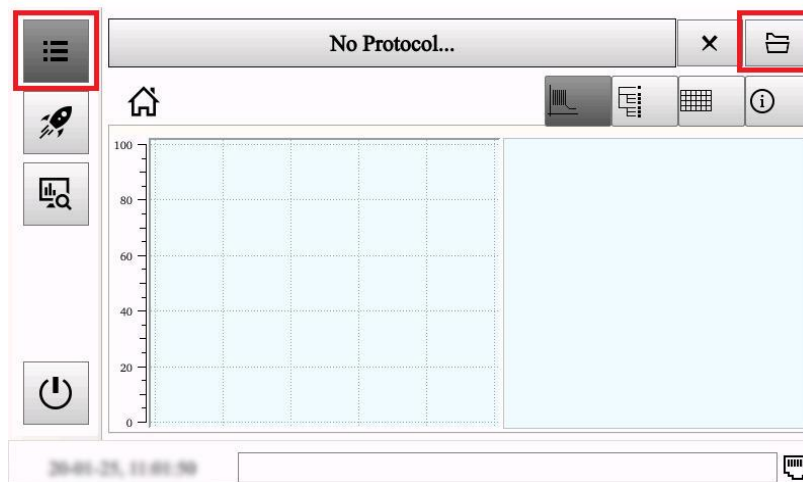

Figure 13 – Protocol page
2. To upload the protocol from the Protocol page , press **Open**  (Fig. 13). Select the location of the protocol and click **Apply**.